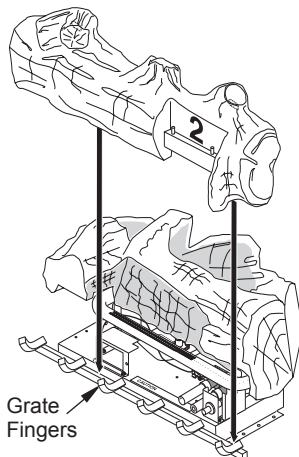

Figure 28 - Front Log Placement (Remote-Ready Models)
2. Place front log on grate fingers, making "V" notches in log fit over grate fingers (see Figure 28, page 19).